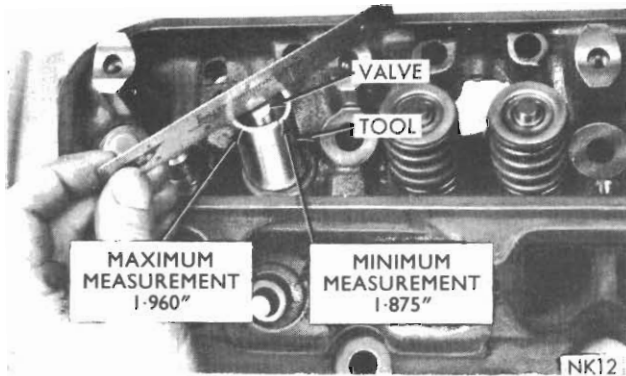

Fig. 9 - Measuring valve stem length (typical)
(2) If valves or seats are reground, check valve stem height with Tool E9C35D (*Fig. 9*). If valve is too long, grind off the tip until length is within limits of 1.875"–1.960".